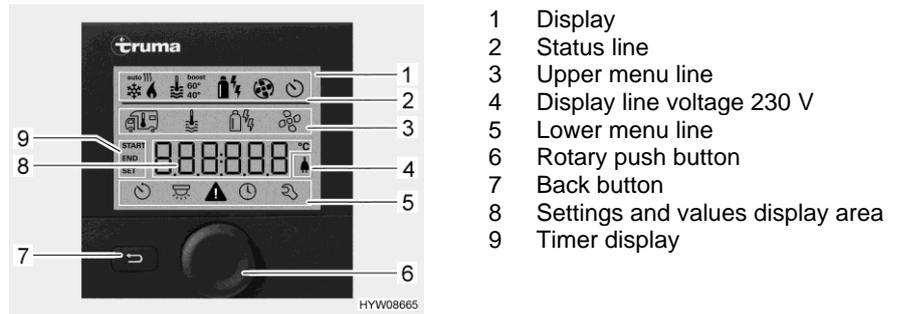
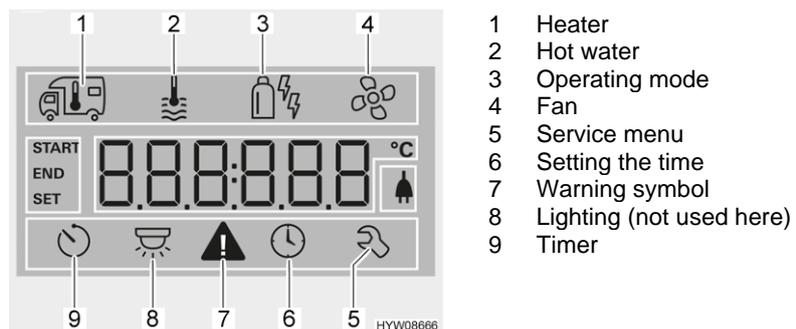

Fig. 105 Operating unit with displays
Fig. 106 Display (operating unit)
- Status line (Fig. 105,2)
- Upper menu line (Fig. 105,3)
- Display area (Fig. 105,8)
- Lower menu line (Fig. 105,5)
- Press and hold the rotary push button (Fig. 105,6) for approx. 3 seconds. Both menu lines (Fig. 105,3 and Fig. 105,5) are displayed. The first symbol flashes.
- Turn rotary push button (Fig. 105,6) until the required menu symbol flashes.
- Press rotary push button to save the value set. If you do not wish to change the value originally set: Press back button (Fig. 105,7).
- Turn rotary push button (Fig. 105,6) until the heater menu symbol (Fig. 106,1) flashes.
- Press rotary push button to save the value set. The symbol in the status line (Fig. 105,2) flashes until the room temperature set is reached. If you do not wish to change the value originally set: Press back button (Fig. 105,7).
- Turn rotary push button (Fig. 105,6) until the hot water menu symbol (Fig. 106,2) flashes.
- Press rotary push button to save the value set. The symbol in the status line (Fig. 105,2) flashes until the hot water temperature set is reached. If you do not wish to change the value originally set: Press back button (Fig. 105,7).
- Turn rotary push button (Fig. 105,6) until the fan menu symbol (Fig. 106,4) flashes.
- Turn rotary push button (Fig. 105,6) until the timer menu symbol (Fig. 106,9) flashes.
- Press rotary push button. The timer is activated. The timer symbol (Fig. 106,9) flashes when the timer is programmed and active.
The warning symbol (Fig. 106,7) flashes in the event of a warning. The heater continues to operate. In the event of only a temporary fault, the warning symbol goes out automatically.